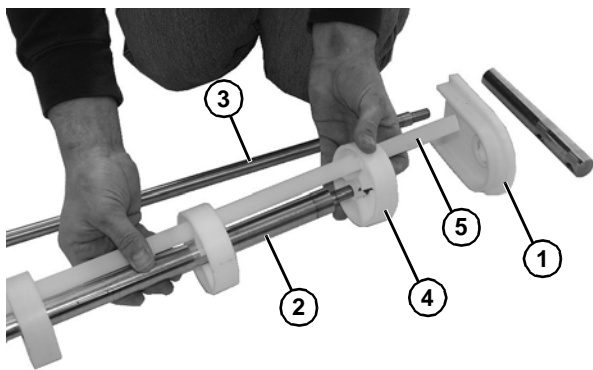

Figure 63
3. Remove pinch guard (Figure 63, item 1) from idler shaft (Figure 63, item 2) and pinch guard shaft (Figure 63, item 3).
4. Slide the pucks (Figure 63, item 4) and alignment bar (Figure 63, item 5) off the idler shaft (Figure 63, item 2).